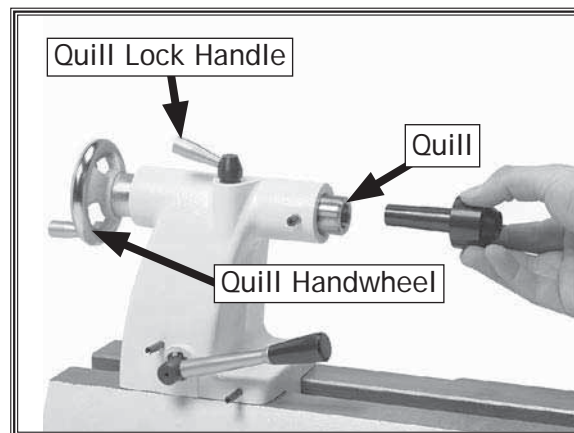

Figure 24. Example of installing live center in tailstock.
3. Firmly insert tapered end of center into tailstock, as shown in Figure 24.